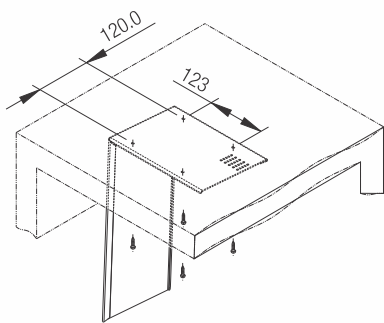

Fig. 1
1. Fit the L-Bracket under the table top as shown in fig.1.
1. Fit the retainer plate under the table top leaving 15 mm from the front. Fit the stopper bush at the rear end (Refer Fig.1). Use pan head wood screws provided.